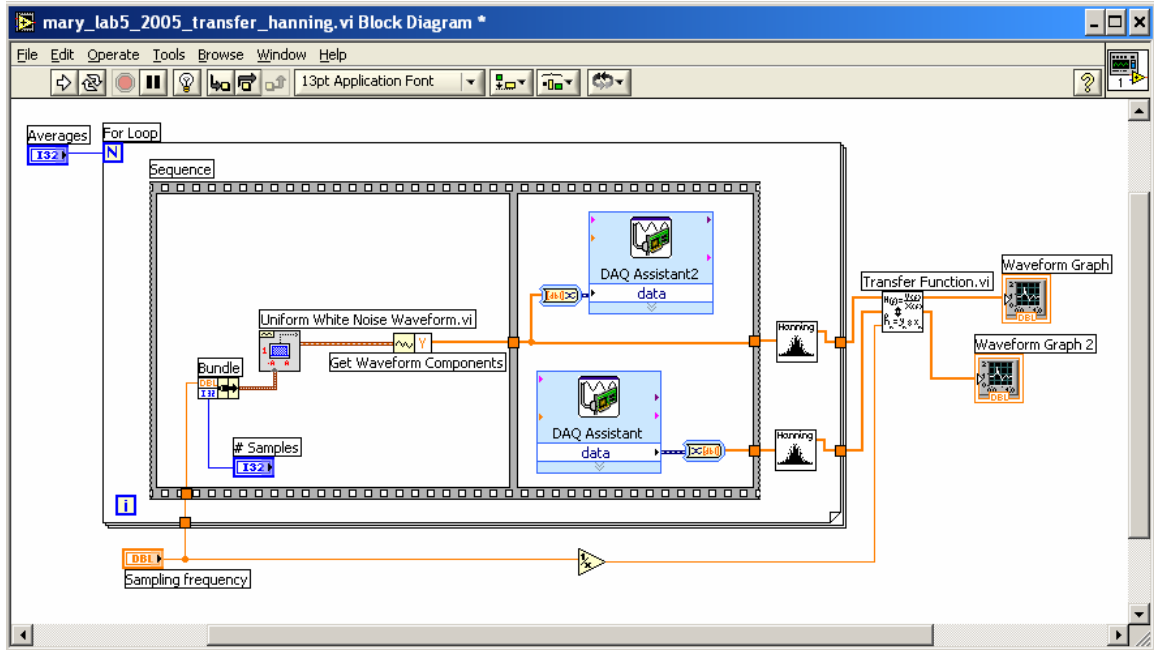

Figure 7. **Block diagram** for yourname_lab5_ex2.vi
- Add two Hanning Windows to the block diagram of **yourname_lab5_ex1.vi** as shown in Figure 7. Hanning Windows are useful for general-purpose windowing applications.